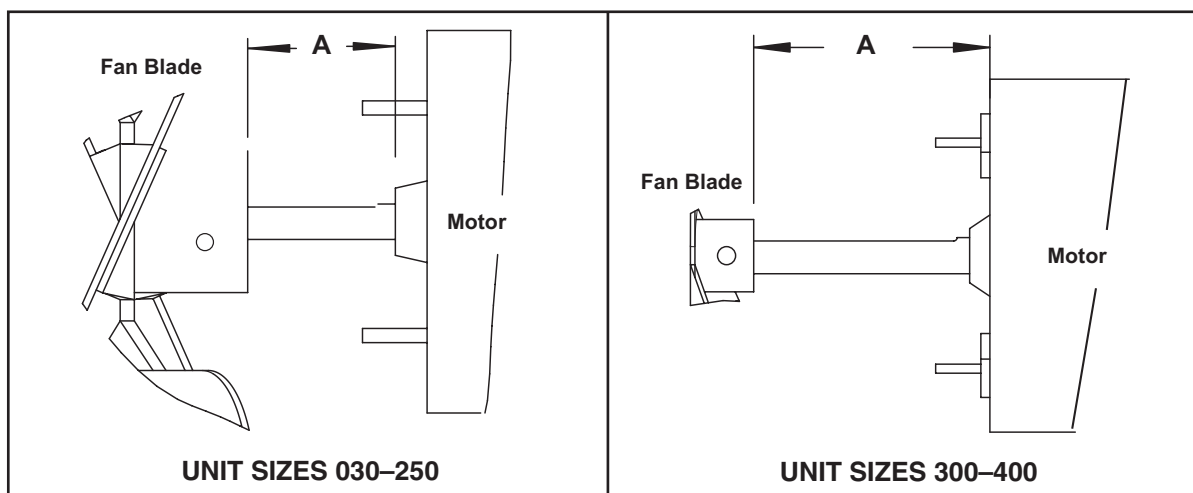

Figure 17. Fan Blade Positioning and Spacing
6. Ensure that fan blade is in proper position on shaft (see Figure 17) and that blades are properly spaced (refer to Table 18).
*See Figure 17 .
*See Figure 17.